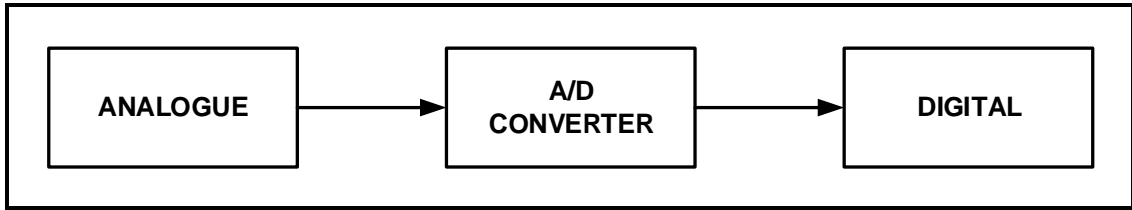

FIGURE 5.5: ANALOGUE-TO-DIGITAL CONVERTER
5.5 Refer to FIGURE 5.5 below and answer the questions that follow.